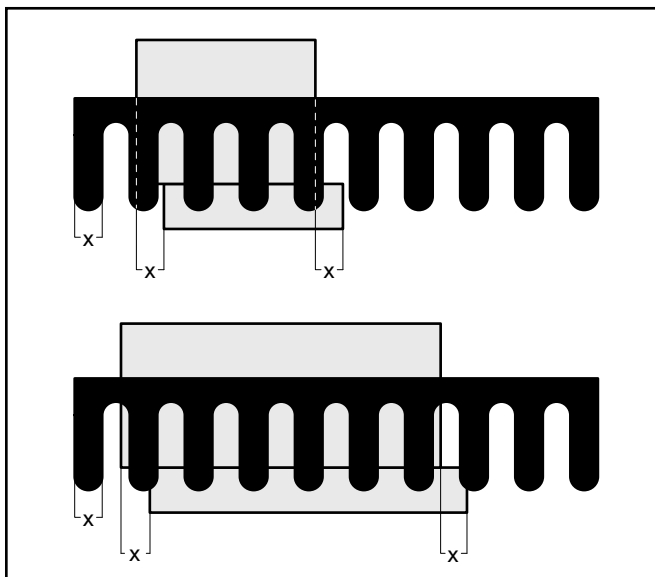

Figure 9B. Offset the two drawer pieces by width of a template finger.
7. Release the side piece and slide it to the right so that the edges of the pieces are offset by one full width of a template finger. With the included template, the measurement of offset is $\frac{1}{2}$ ". Re-clamp in place. See **Figure 9B**.